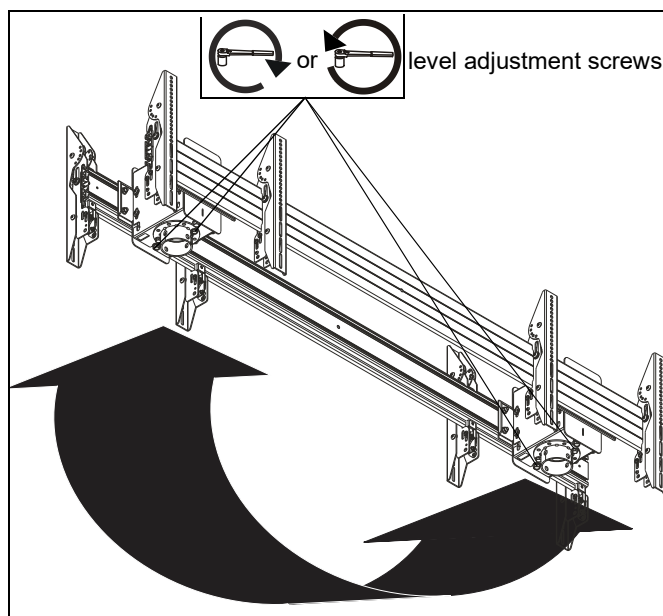

Figure 13
1. Adjust level adjustment screws to change roll position. The roll may be adjusted 1" in either direction. (See Figure 13)